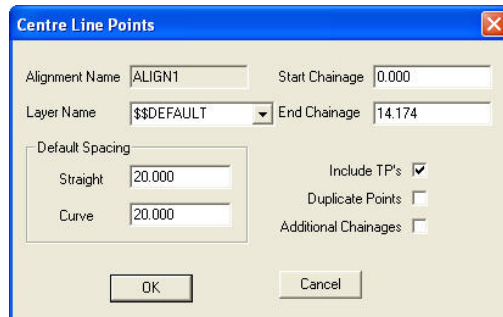

Figure 13-46. Center Line Points
2. Select an alignment, and click **OK**. The **Centre Line Points** dialog box appears (Figure 13-46 on page 13-37).